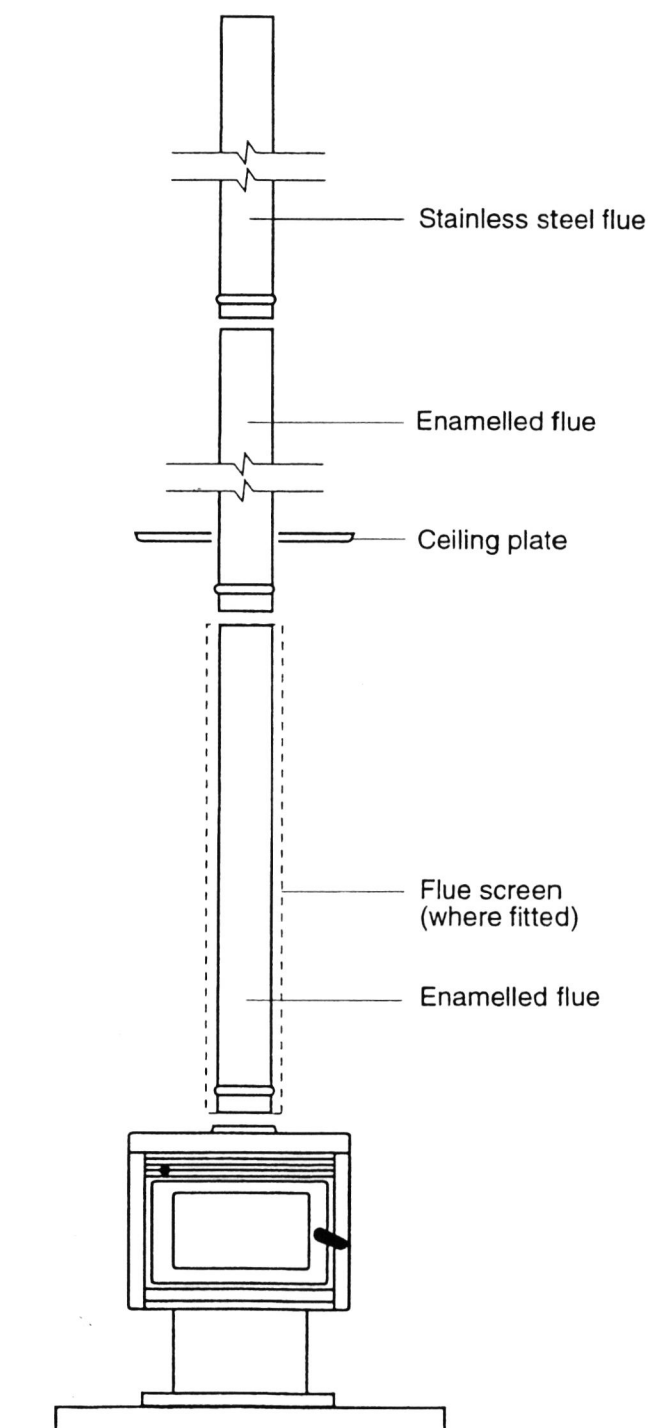

Fig 1
5. Fit the rest of the flue. See Fig 1. The length of flue that is inside the liners must be the stainless steel one.